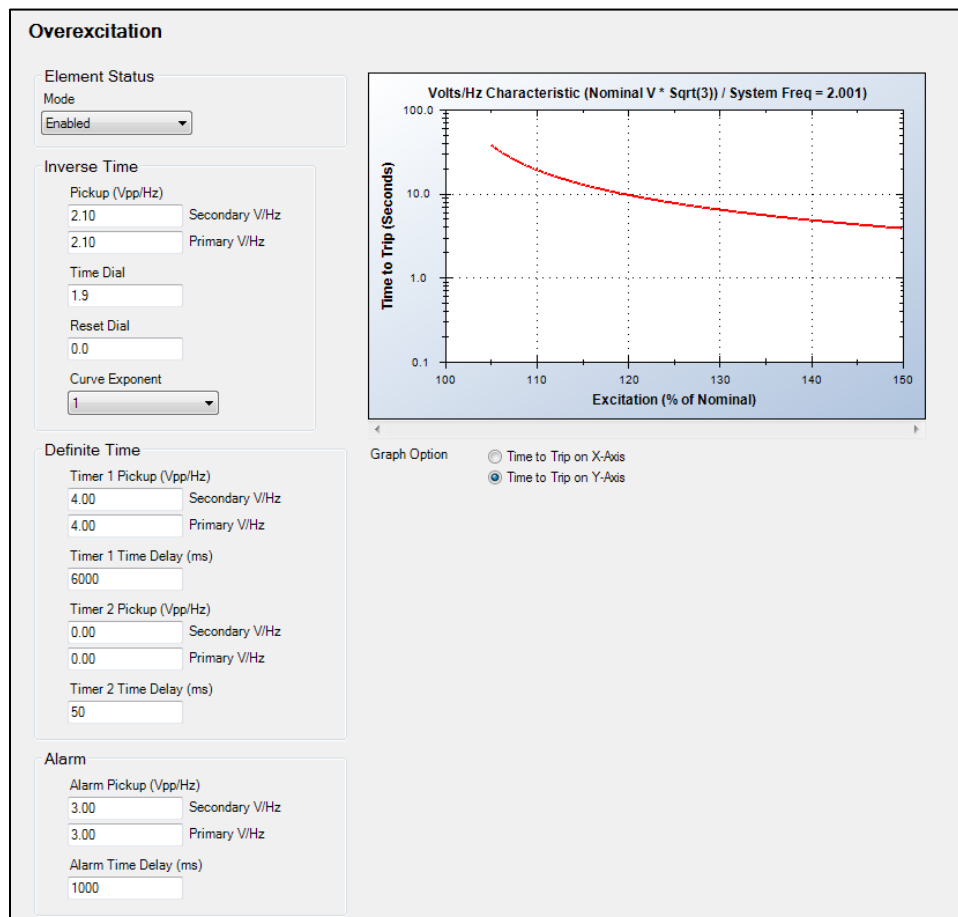

Figure 5-2. Overexcitation Settings Screen
Overexcitation operational settings are configured on the Overexcitation (24) settings screen (Figure 5-2) in BESTCOMSP_{Plus}.